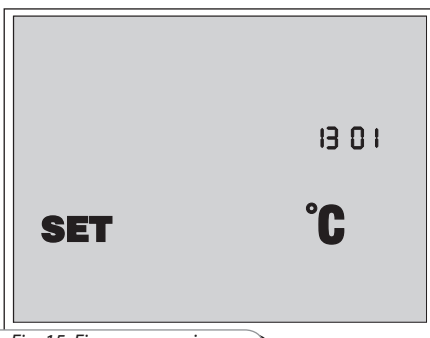

Fig. 15. Firmware version
- Press the button  to display the controller board code and firmware version code on the wall-mounted control panel, fig. 15.